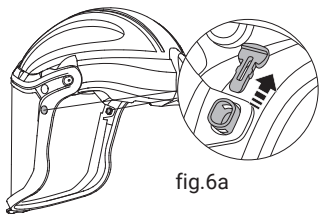
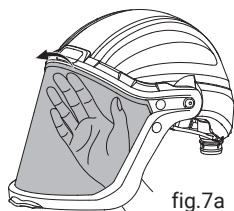

fig.6a
fig.7a
- Pull up the latches and remove buckles from both sides (See fig.6a / 6b), keep the parts appropriately. Push the central of visor top edge from internal side, until you hear a "click" to get out the visor (See fig.7a / 7b).